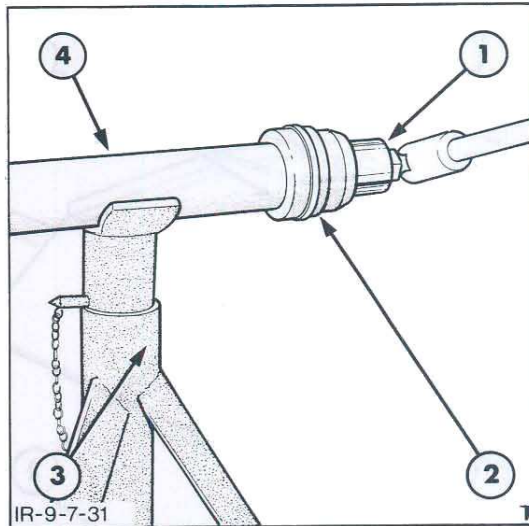

Figure 31
4. Secure the rod trunnion in a vice or, preferably, secure to an anchor point on the machine using a retaining pin. Unscrew the piston retaining bolt using a high quality socket and drive system. Figure 31. Considerable torque may be necessary to loosen the bolt.